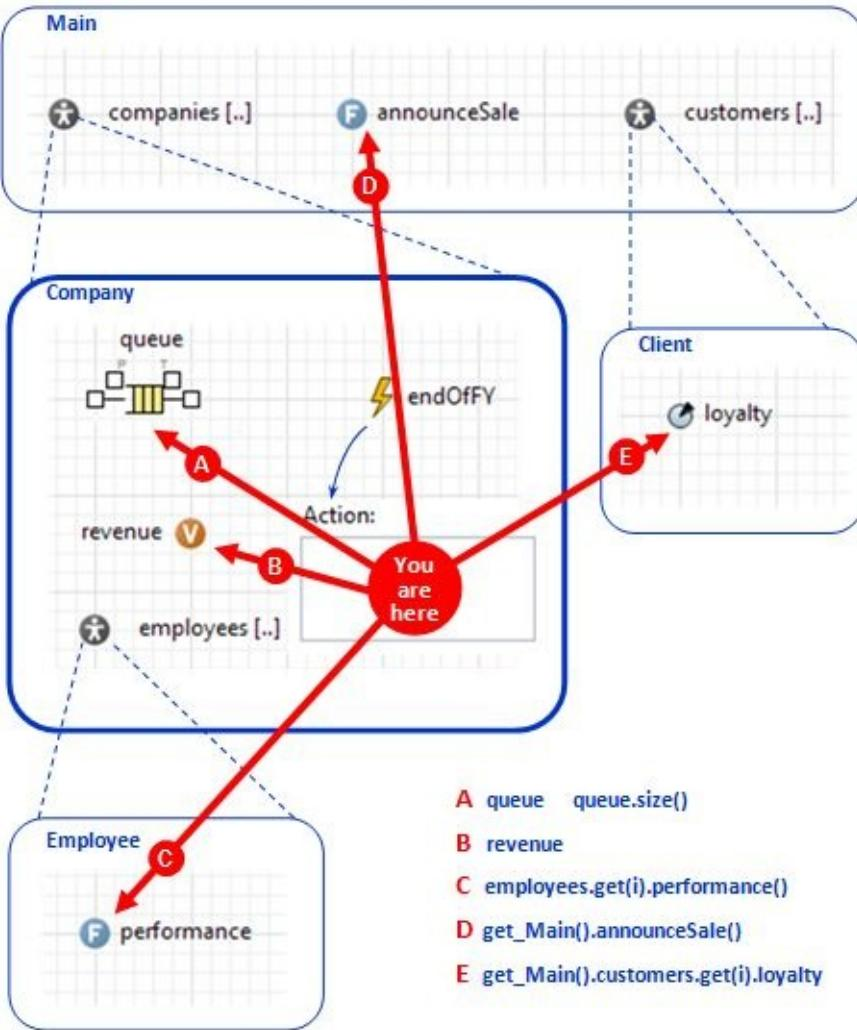

Figure 10.16 Options for collection type of a replicated object
Most of the code you write when you develop models is the code of an active object class. More precisely it is the code of one of the methods of the active object class. No matter whether you are defining an action of an event, setting a parameter of an embedded object, or writing a startup code – you can assume you are writing the code of the current active object class. Therefore the following rules apply (see Figure 10.16):
- To access a "peer" object (the object that shares the container with the current one) you should first get up to the container object and then get down to another embedded object. To access a customer's loyalty from a company in Figure 10.16, we need first to get to `Main` and then to `Client` (with particular index): `get_Main().customers.get(i).loyalty`.